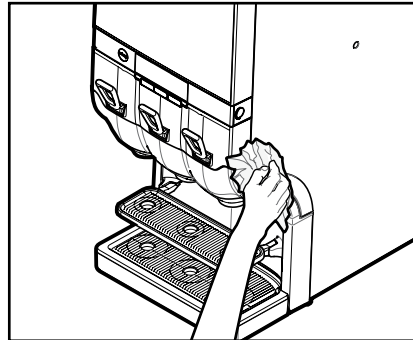

Fig. 24
6. Wipe down the exterior of the dispenser with a damp and clean cloth (fig. 24).